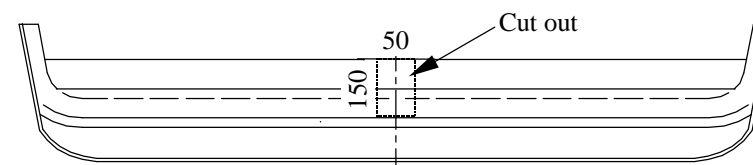

Fig. 2
7. So prepared elements of the towbar fix with jibs (pos. 8) in marked points (pos. C and D).
8. Install the bumper after cut out of its fragment 50x150mm, as showed on the fig. 2.